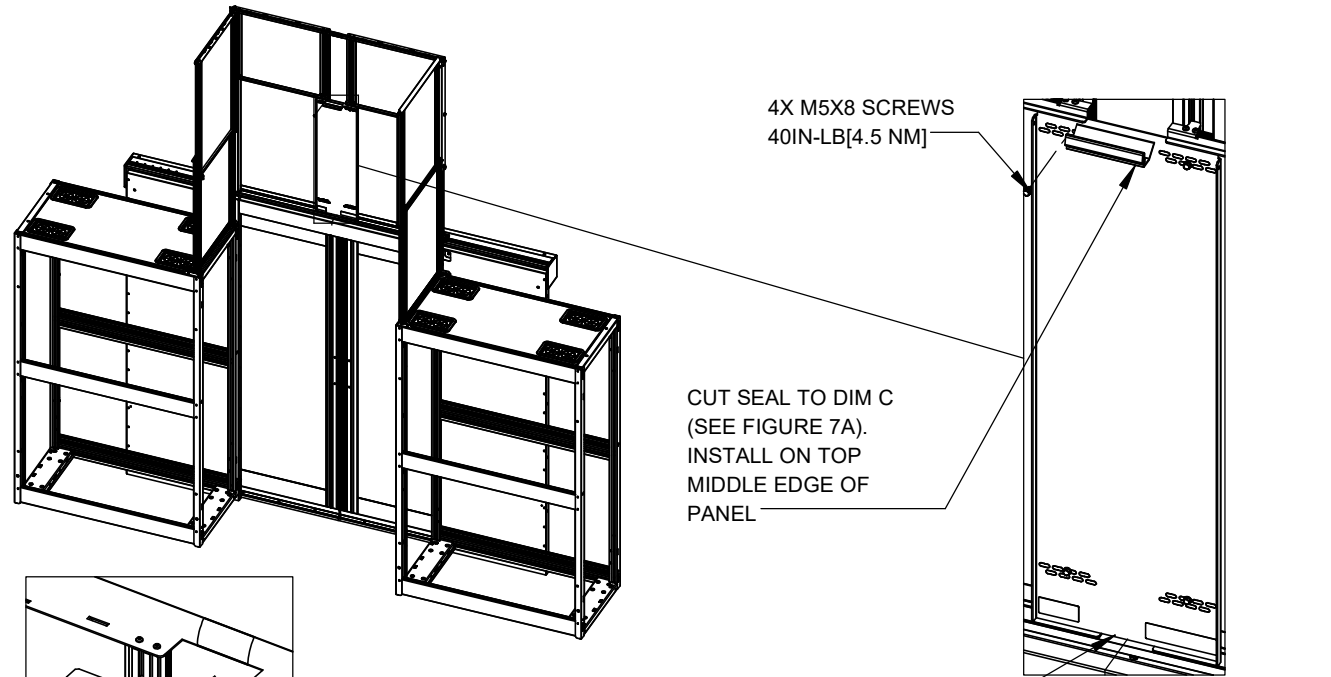

FIGURE 8.
13. Install the lower mid panel as shown in Figure 8.